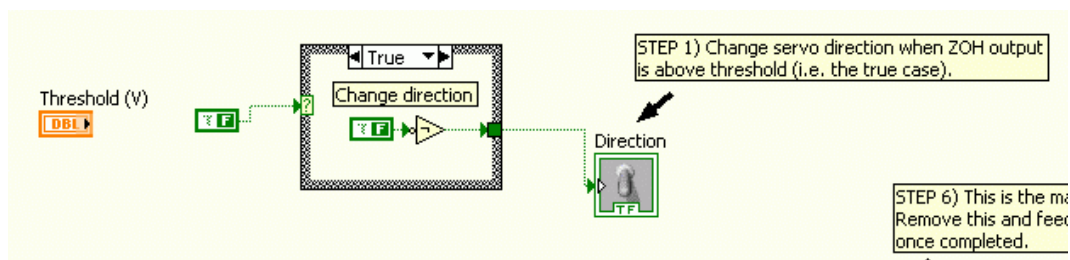

Figure 2.1: Add code to change servo direction when ZOH output exceeds threshold value
7. Go into the block diagram of the QNET\_MYOELECTRIC\_Student.vi and find the area that is depicted in Figure 2.1, below. Change the block diagram such that the servo direction, i.e. the Direction indicator, changes when the output from the ZOH block exceeds the value in the Threshold (V) control. Use the case structure and remove the constant Boolean values (they are just place holders so the VI can be compiled and ran). Copy and paste this section of the block diagram and attach it.